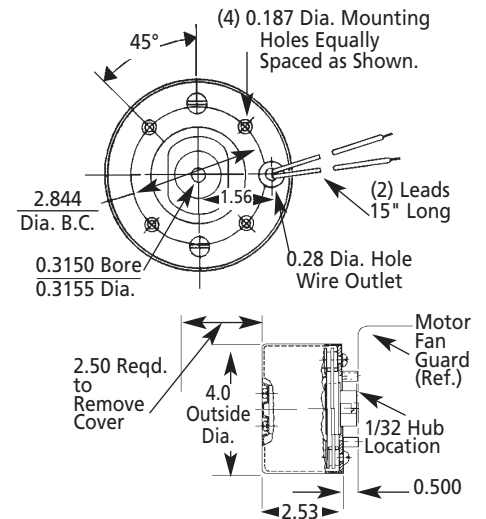

Figure 2 – Dimensions
Before installing, refer to section on Torque Selection, use Figures 2 thru 5 as reference.
2. Position hub (Ref. No. 8) on motor shaft 1/32" from mounting surface of motor fan guard and securely tighten both set screws. Bore in hub (See Figure 2) is designed to give minimum clearance between hub and motor shaft. If hub is tight on shaft, use emery cloth on motor shaft so that hub slides on freely. Loctite or similar adhesive may be used on motor shaft extension.